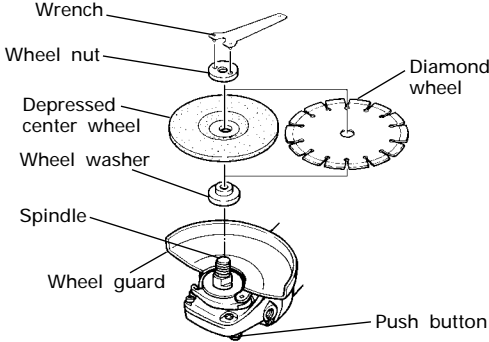

Fig. 4
Confirm that the push button is disengaged by pushing push button two or three times before switching the power tool on (See Fig. 4)
## ASSEMBLING AND DISASSEMBLING THE DEPRESSED CENTER WHEEL (Fig. 4)
1. **Assembling (Fig. 4)**
Tighten the wheel nut by using the supplied wrench as shown in Fig. 4.